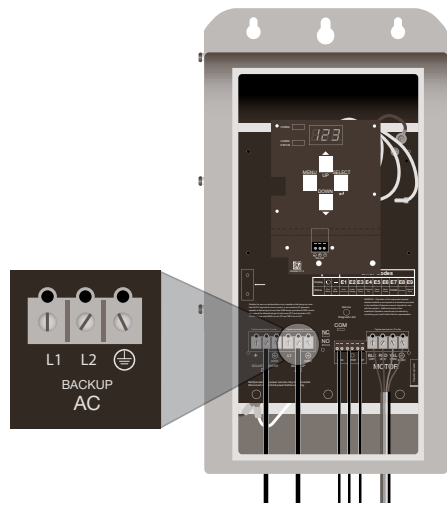

Figure 6: AC Wiring Connection
3. Connect the cables from the generator to the Terminal Block labeled "Back-up AC" and marked L1, L2, and GND (Figure 6) (Torque specification: 15 in-lbs/ 1.7 N-m).